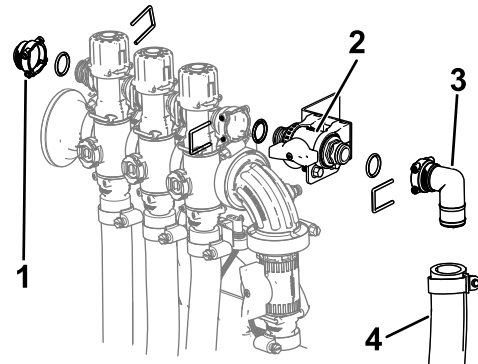

**Figure 20**
5. Install the control valve assembly onto the control-valve bracket using 4 bolts (M6) as shown in Figure 20.